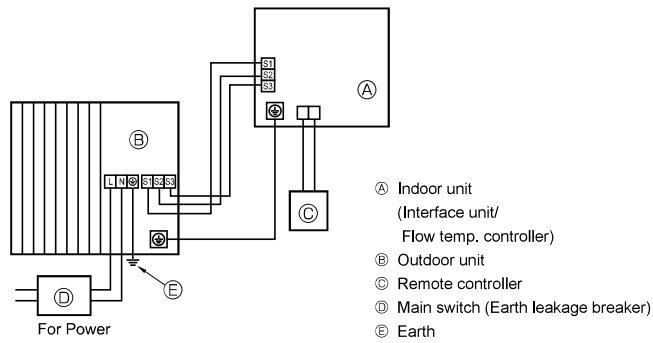
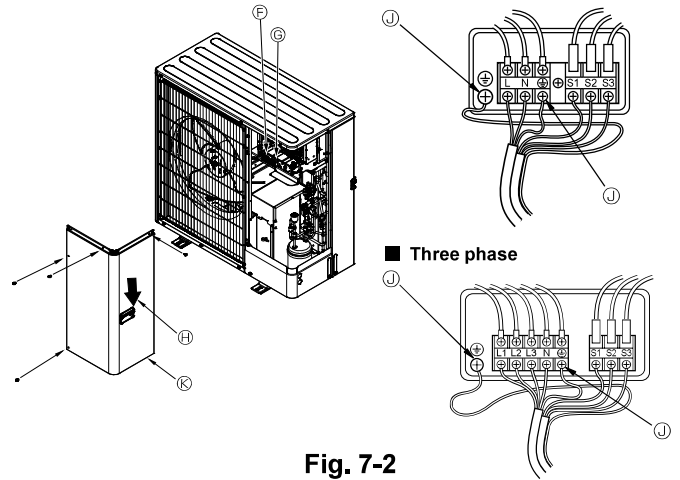

Fig. 7-1
Fig. 7-2
## 7.1. Outdoor unit (Fig. 7-1, Fig. 7-2)
- ① Remove the service panel.
- ② Wire the cables referring to the Fig. 7-1 and the Fig. 7-2.